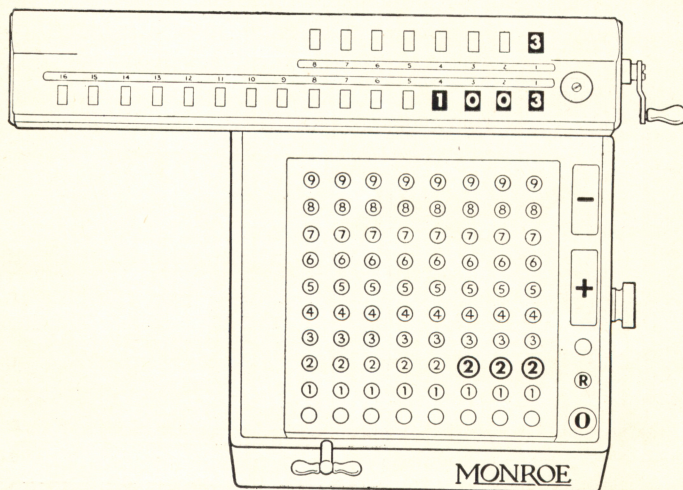

Figure 2
**Step 3**—Change keyboard set-up to 222. Depress the plus bar once and the final result, 1003, appears in the lower dials as shown in Figure 2. The upper dials show 3 indicating the number of items added. When more than 9 items are added the upper dials figure is disregarded.